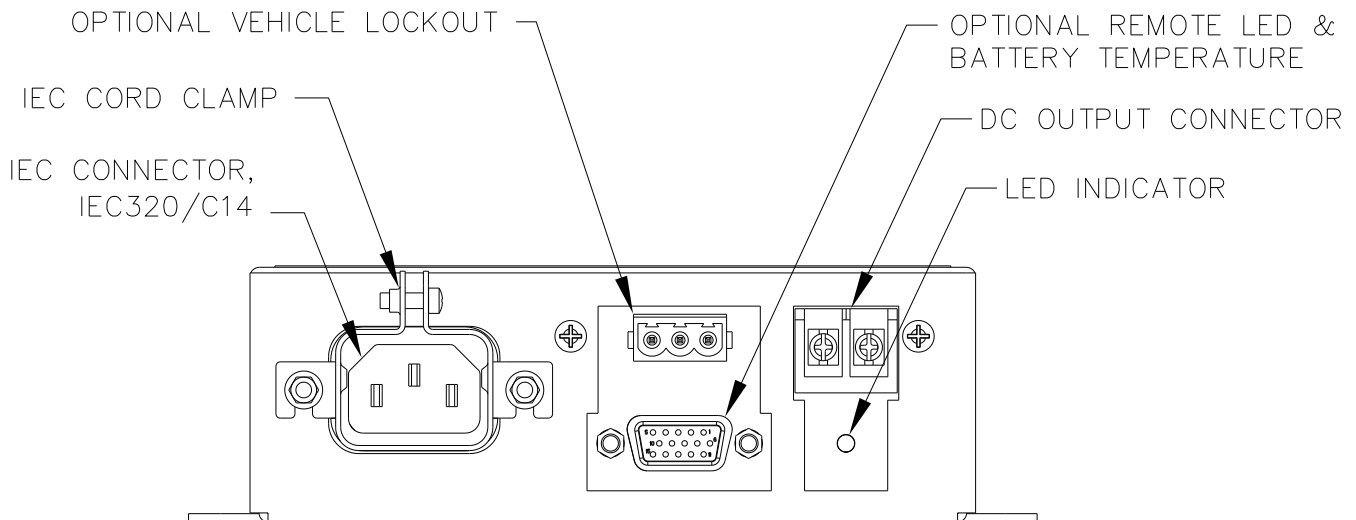

Figure 5-1 Charger User Interface
Figure 5-1 identifies the items found on the charger user interface.
The charger includes externally accessible screw terminals for the DC output (see Figure 5-1). When connecting a cordset or wire assembly to the DC output screw terminals, ensure that the other end of the cordset or wire assembly is disconnected. The screw terminals should be torqued to 8.8 in-lbs. The “+” marked screw terminal must be connected to battery positive (+). The “-” marked screw terminal must be connected to battery negative (-). The charger will not operate if the polarity is reversed.
The charger includes one (1) local LED that can display three (3) colors to indicate charger status and fault information (see Figure 5-1). The functionality of the LED is outlined below. If an optional remote LED is being used, it will provide the same functionality.